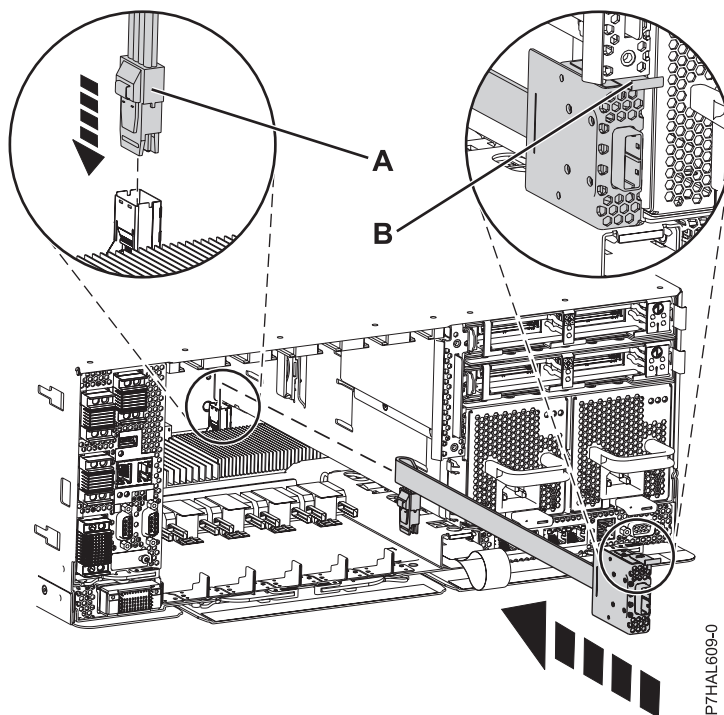

Figure 77. Replacing the SAS cable
1. Connect the external port to the back of the system **(B)** until it snaps in place, as shown in Figure 77.